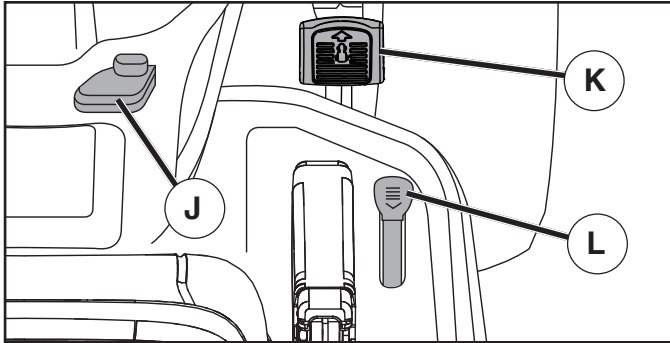

Fig. 9
## TO MOVE FORWARD AND BACKWARD (See Fig. 9)
## TO USE CRUISE CONTROL (J) (See Fig. 9)